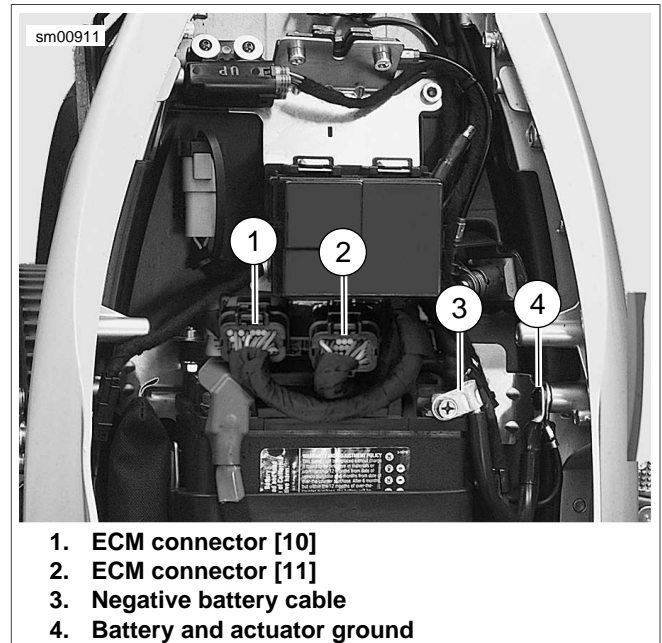

Figure 6-113. Harness and Cable Routing: Lightning (XB12 Models)
3. See Figure 6-113. Remove negative battery cable (3) from battery. See 1.5 BATTERY MAINTENANCE.
5. See Figure 6-113. Remove the exhaust actuator ground (4).
8. See Figure 6-113. Disconnect connector [161B] from actuator.
1. See Figure 6-113. Mate actuator connector [161B] (2) to actuator.